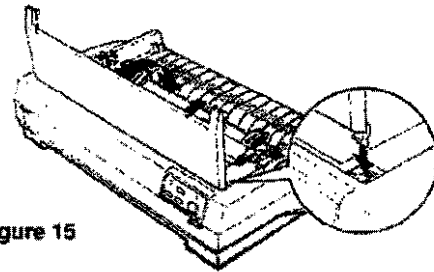

Figure 15
9. Replace the printer cover by first inserting the front tabs into the slots on the printer and then lowering it into place. Finally, push it down until it clicks. Turn the printer back on (Figure 15).